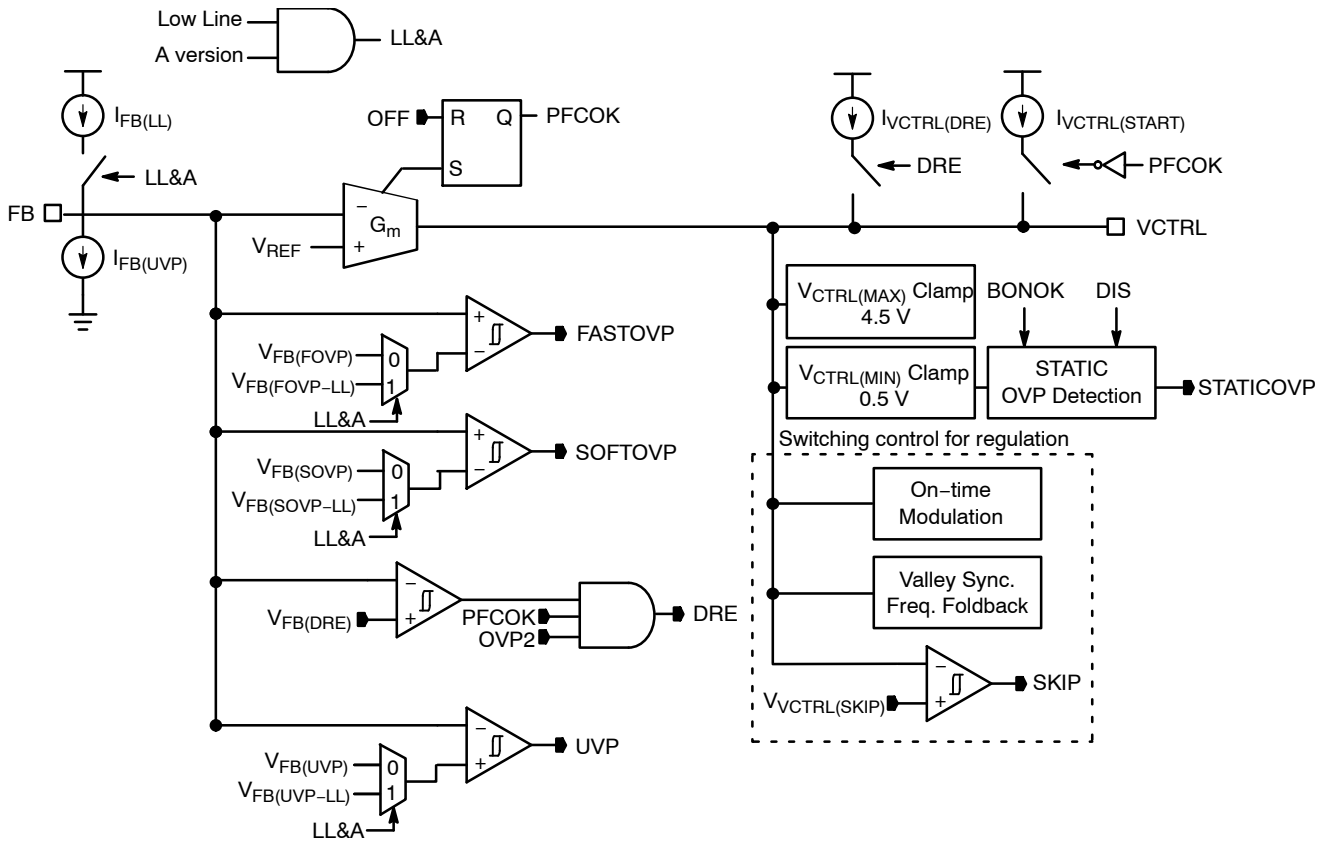
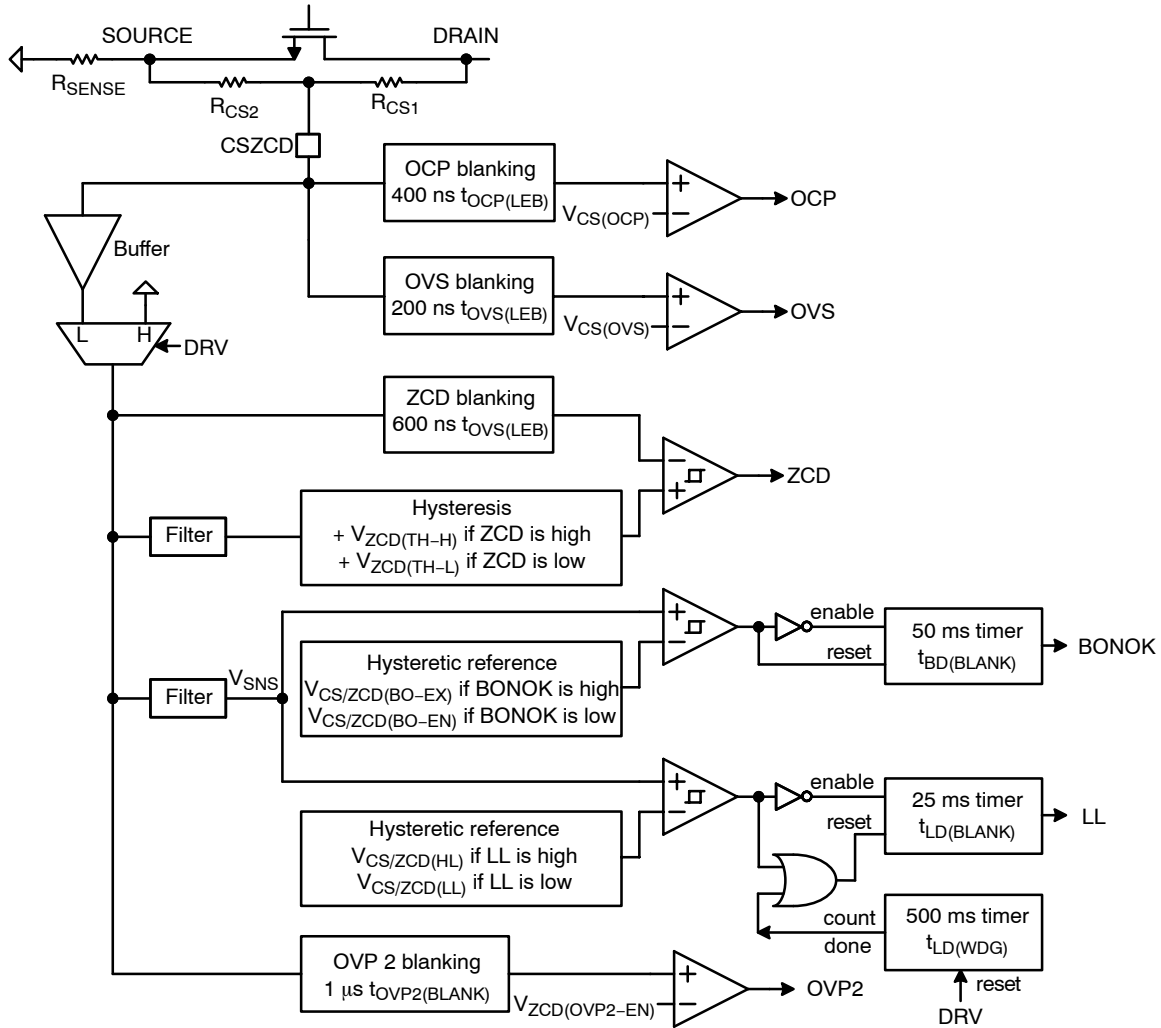

Figure 6. Feedback Regulation and Transient Control
Figure 7. CS/ZCD Internal Circuit Block
A trans-conductance error amplifier (OTA) with access to the inverting input and output is provided as shown in Figure 6. It features a FB reference voltage for output voltage regulation of 2.5 V, a typical trans-conductance gain of 200 μS and a maximum capability of about $\pm 20 \mu\text{A}$ OTA output current. The VCTRL pin is the output of the error amplifier for external loop compensation. Typically, a type-2 network is applied between the VCTRL pin and ground to set the regulation bandwidth below about 20 Hz. VCTRL basically controls turn-on time, dead time in VSFF, skip mode and STATICOVF:
The NCP1623 embeds a “Dynamic Response Enhancer” (DRE) that deals with the under-shoots of the output voltage at abrupt increases of the load current. An internal comparator monitors the FB pin and when this voltage is lower than $95.5\% V_{REF}$, a $200 \mu A$ $I_{VCTRL(DRE)}$ is sourced to speed up the charge of the compensation network as shown in Figure 6. Effectively this appears as a 10x increase in the loop gain. DRE is disabled during the start-up sequence until the PFC stage has stabilized and PFCOK is high. DRE is also disabled when the OVP2 (Second Over Voltage Protection) is triggered.
In case of output over-shoots, soft OVP is firstly triggered by comparing FB voltage and a soft OVP threshold, $V_{FB(SOVP)}$ as in Figure 6. Once the soft OVP is triggered, the turn-on time is gradually decreased in 4 to 5 switching periods to smoothly reduce powering. If FB voltage is even
As illustrated in Figure 7, the CS/ZCD pin provides the input signal for the following functions:
low–line (LL) detection is set longer than a half–line cycle but not that long to quickly detects an abrupt line transient from high to low. When the line changes from low to high and V_{SNS} is over $V_{CS/ZCD(HL)}$, high line mode is immediately entered. When high–line is detected (that is, when signal “LL” of Figure 7 is low), the loop gain, $t_{ON} / (V_{CTRL} - V_{CTRL(MIN)}) \mu s/V$, is divided by about 2.5 to ensure a 2–level feedforward.
As shown in Figure 7, when V_{SNS} is lower than the brown–out enter voltage ($V_{CS/ZCD(BO-EN)}$) for BO blanking time (50 ms $t_{BO(BLANK)}$), BONOK signal is high and the drive is not immediately disabled. Instead, a 30 μA current source ($I_{VCTRL(BO)}$) gradually reduces V_{CTRL} . As a result, the circuit keeps generating DRV pulses until the STATICOVV trips (that is when V_{CTRL} reaches the minimum clamp level, 0.5 V $V_{CTRL(MIN)}$ as shown in Figure 6). This method relieves the risk of input voltage bouncing the fault line detection caused by EMI filter oscillation from an abrupt DRV stop.
Similar to power reducing sequence in brown–out, the drive is not immediately disabled and 30 μA current source gradually reduces V_{CTRL} until the STATICOVV function trips in Figure 6. The DIS sleep mode is maintained until the DIS pin is externally pulled down below the DIS sleep mode exit voltage ($V_{DIS(EX)}$, 0.8 V minimum).